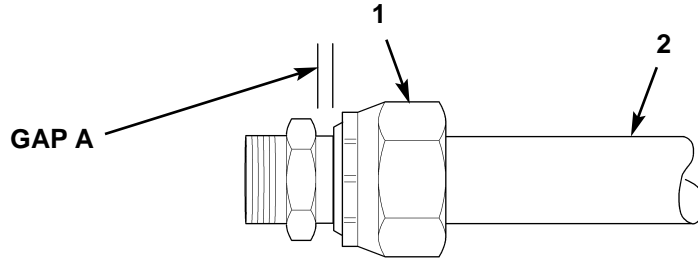

Figure 5. Tightening Fitting Nut.
5. Tighten nut (figure 5, item 1) and measure gap A, in accordance with (IAW) table 1 below, to ensure proper compression of ferrule on tube (figure 5, item 2).
6. Repeat steps 4 and 5 for opposite end of tube (figure 5, item 2).
7. If necessary, install new tie straps on tube (figure 5, item 2) as noted during removal.